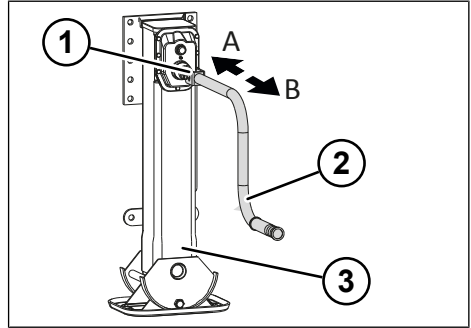

Fig. 5-3: Load speed and high speed of the support device
- ▶ Switch on rapid speed by pulling out the hand crank (see "Fig. 5-3: Load speed and high speed of the support device", pg. 29).
- ▶ Switch on load speed by pushing in the hand crank (see "Fig. 5-3: Load speed and high speed of the support device", pg. 29).
- ▶ Set to load speed by pushing in the hand crank (see "Fig. 5-3: Load speed and high speed of the support device", pg. 29).
- ▶ Set to high speed by pulling out the hand crank (see "Fig. 5-3: Load speed and high speed of the support device", pg. 29).